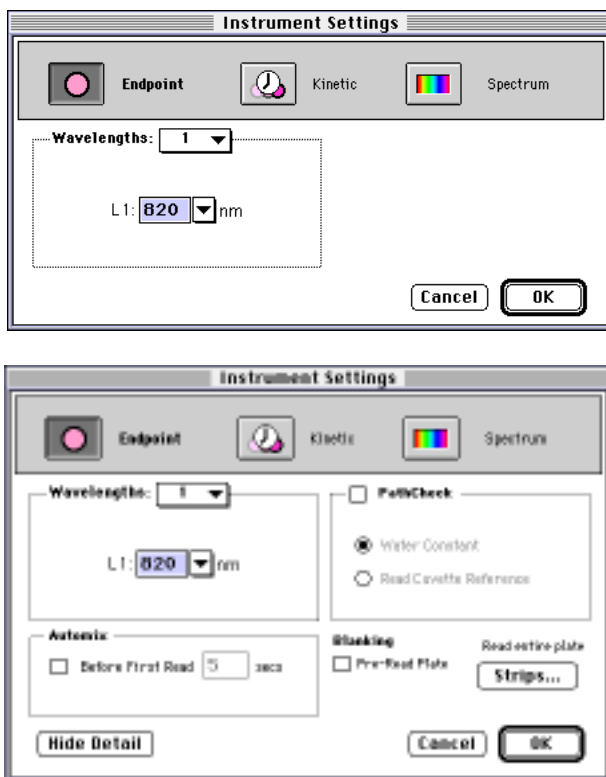

Figure 4: The Instrument Settings dialog box set up for a cuvette (upper) or plate (lower)
- Step 2** Set up the Instrument Settings dialog box as shown in Figure 4 for a cuvette (upper) or for a plate (lower). Select to perform an end-point read at 820 nm. DO NOT SELECT PATHLENGTH CORRECTION (i.e., leave the PathCheck checkbox unchecked). The phosphomolybdate absorption band extends into the near IR and interferes with the measurements needed for pathlength calculation. It is not necessary to pre-